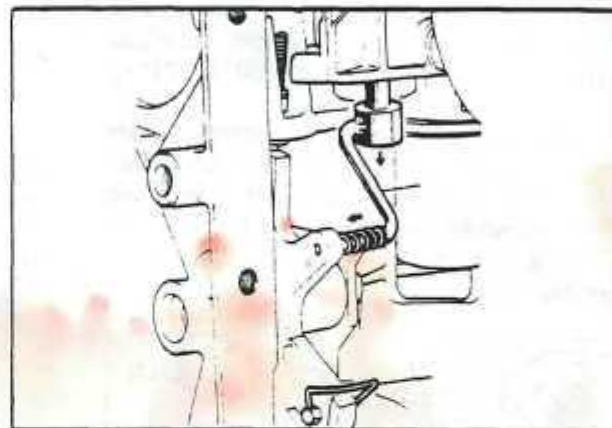

Fig. 17 MANUAL CONTROL VALVE AND PARKING PAWL LINKAGE
2. Remove the manual control valve linkage by pushing the link into the quadrant arm and compressing the spring. This will disengage the other end of the link from the control valve. Remove the linkage. *Fig. 17*